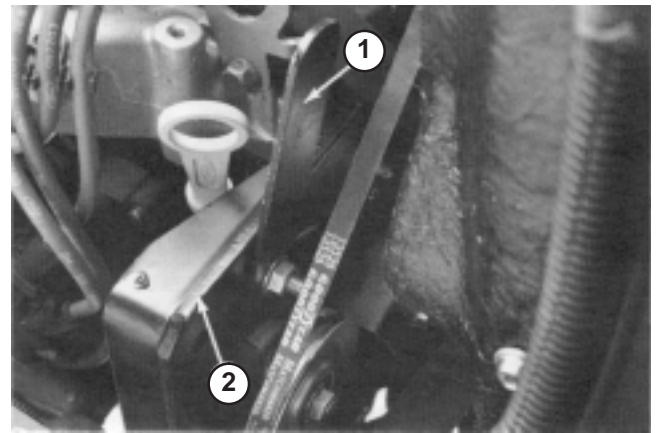

Figure 31
A new cooling fan belt (Fig. 31) is to be tensioned to 65 lbs. A used belt is to be tensioned to 40 lbs.
1. To adjust belt tension, loosen upper and lower nuts securing idler arm to front engine mount (Fig. 31).